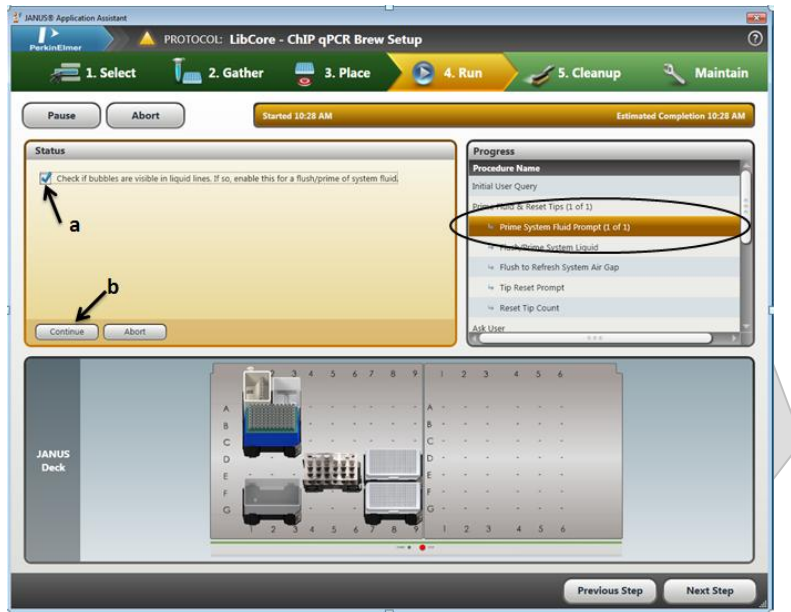

Figure 7: Capillary line bubble elimination step
3.17. The next window will appear as illustrated in Figure 7. If the user is the first person to use the instrument in the day, it is necessary to flush the lines with water and also to ensure no bubbles are present in the capillary lines. Click the "Check if bubbles are visible in liquid lines. If so, enable this for a flush/prime of system fluid (a) and ensure the 'Prime System
Fluid Prompt' is highlighted. Note the arrows in Figure 7 as indicators of the correct steps. Click 'Continue' icon once ready (b).